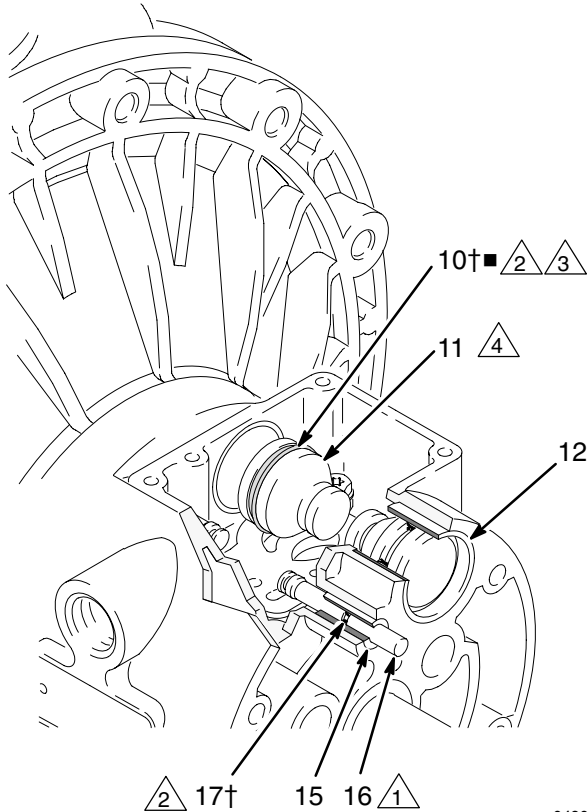

Fig. 9
4. Pull the two actuator pistons (11) out of the bearings (12). Remove the u-cup packings (10) from the pistons. Pull the pilot pins (16) out of the bearings (15). Remove the o-rings (17) from the pilot pins. See Fig. 9.
6. Inspect the bearings (12, 15) in place. See Fig. 9. The bearings are tapered and, if damaged, must be removed from the outside. This requires disassembly of the fluid section. See page 23.
4. Install an o-ring (17†) on each pilot pin (16). Grease the pins and o-rings. Insert the pins into the bearings (15), **narrow** end first. See Fig. 9.
5. Install a u-cup packing (10†) on each actuator piston (11), so the lips of the packings face the **narrow** end of the pistons. See Fig. 9.
6. Lubricate the u-cup packings (10†) and actuator pistons (11). Insert the actuator pistons in the bearings (12), **wide** end first. Leave the narrow end of the pistons exposed. See Fig. 9.